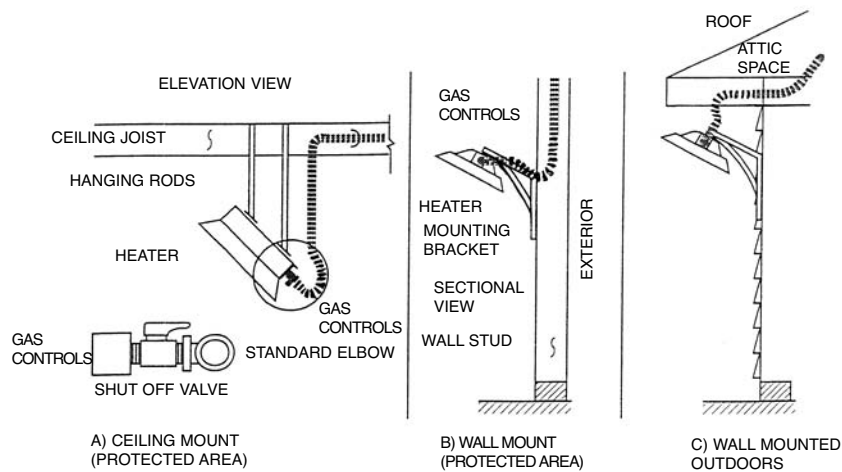

Figure 4.22
- Infrared heaters mounted from ceilings and from walls of structures shall be connected to the WARDFLEX system as shown in Figure 4.22, and in accordance with WARD's instructions.